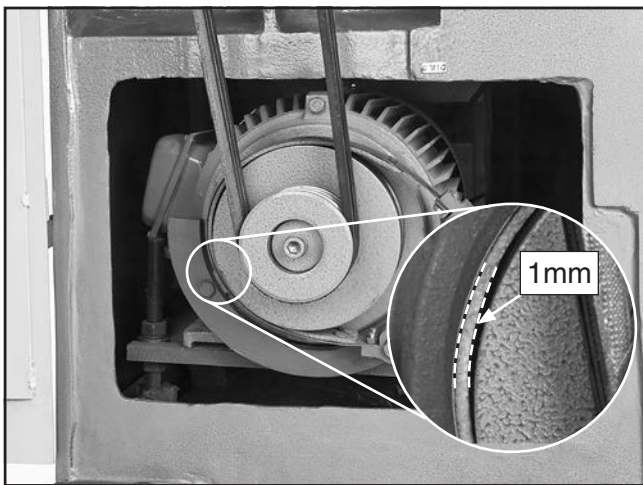

Figure 136. Minimum brake belt thickness.
4. Measure the remaining brake band lining at the thinnest point, which is usually at the 8 o'clock position, as shown in **Figure 136**.